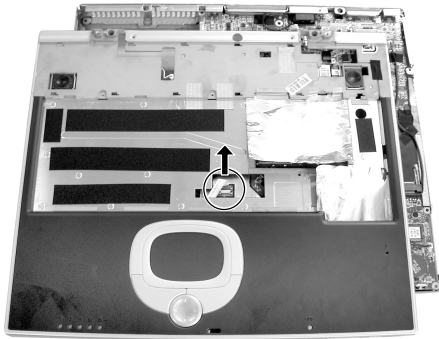

Figure 2-28 Remove the top cover
6. Disconnect the touch pad's cable. Then lift up the system top cover. (Figure 2-28)